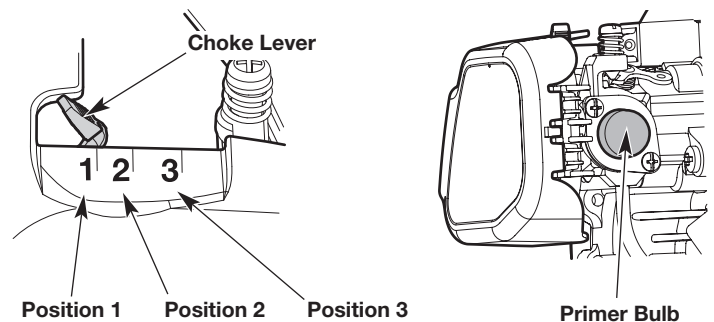

Fig. 11
3. Slowly press and release the primer bulb **10 times** (Fig. 11). If fuel cannot be seen in the primer bulb, press and release the primer bulb until fuel is visible.
4. Move the choke lever to **Position 1** (Fig. 11).
7. Continue to squeeze the throttle control. Move the choke lever to **Position 2** (Fig. 11).
10. Continue to squeeze the throttle control. Move the choke lever to **Position 3** (Fig. 11). Allow the engine to warm up for an additional 60 seconds. The unit may be used during this time.
IF... the engine hesitates, return the choke lever to **Position 2** (Fig. 11) and continue the warm-up.